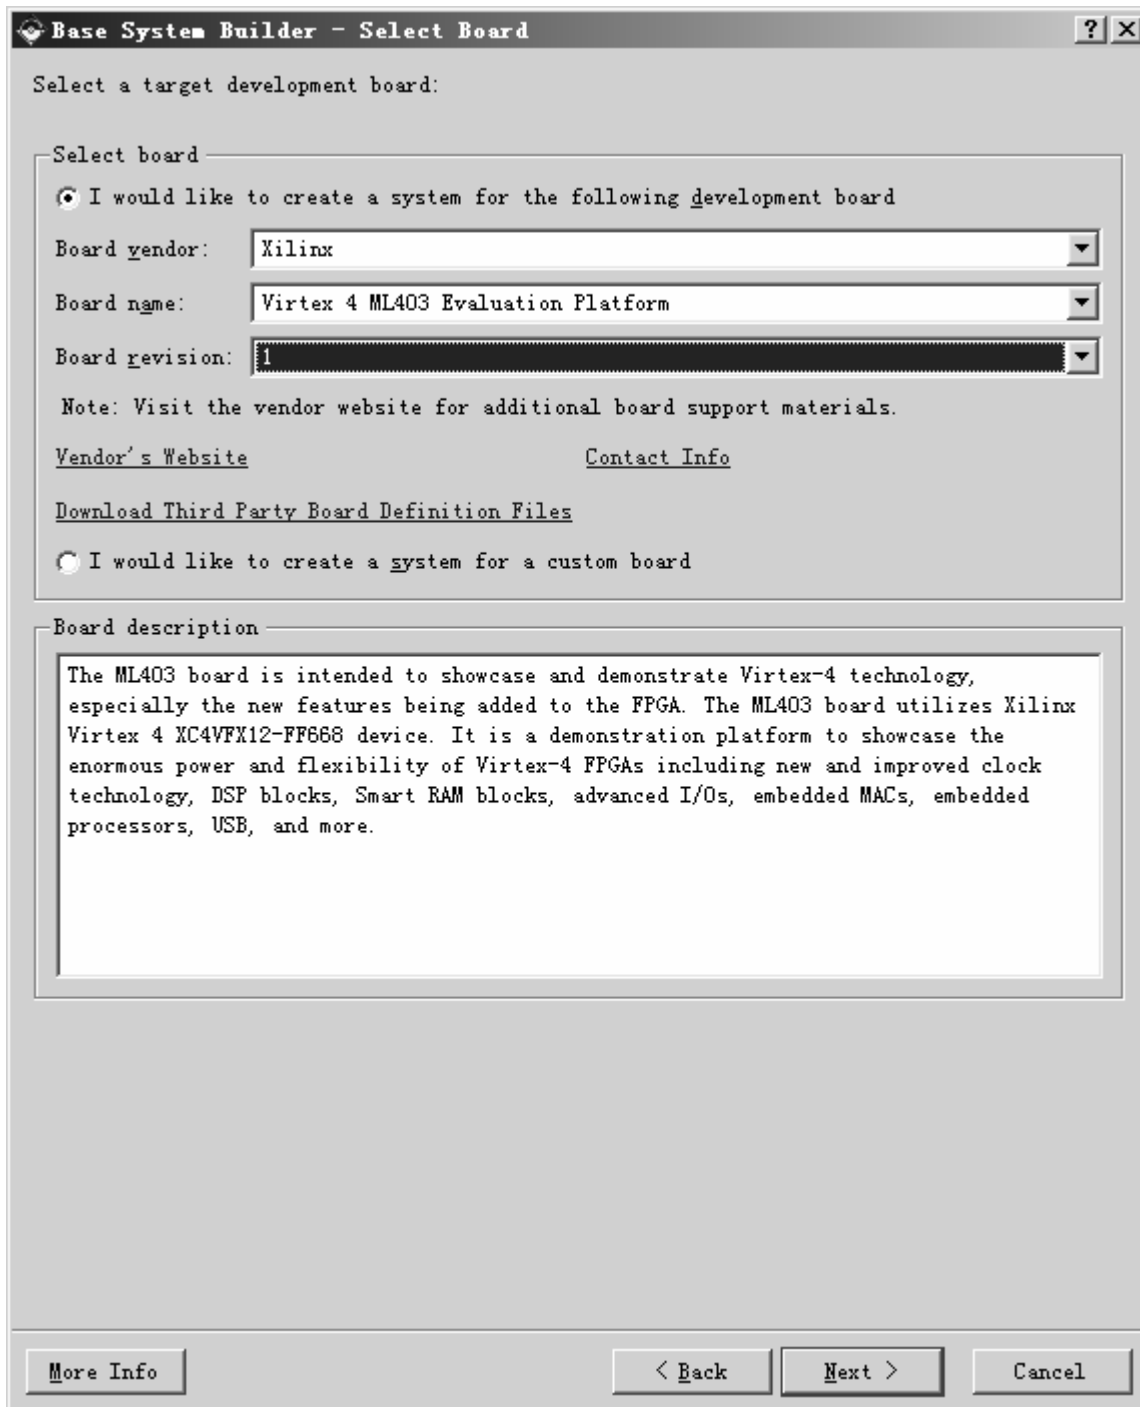

Figure 2: BSB: Select a Board
- In the Base System Builder - Select Board Dialog select the following, as shown in Figure 2: